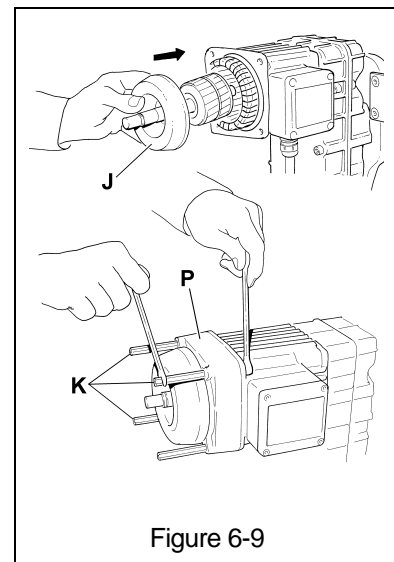

Figure 6-9
- 4) Reinstall the brake block (K), Drum Spacers (M), Snap Ring (L) and reinsert the rotor in the motor. Reinstall the Motor Cover (P), Hexagonal Spacers (J) and Nuts (see Figure 6-9).
6.3.5 If the adjustment has been performed several times and the required braking cannot be obtained, it is necessary to replace the motor cover (P), ordering ONLY original spare parts.